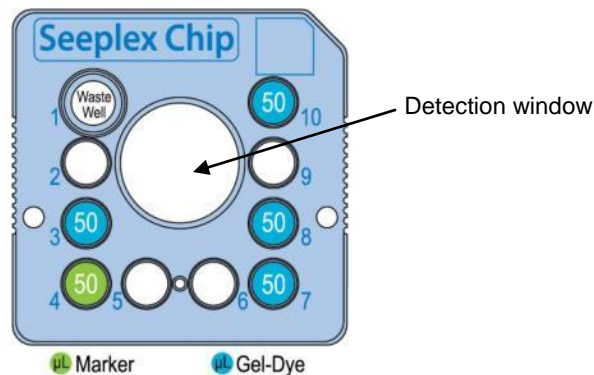

Figure 19. Chip detection window.
- A) Chip detection window is dirty. See **Figure 19** for detection window.